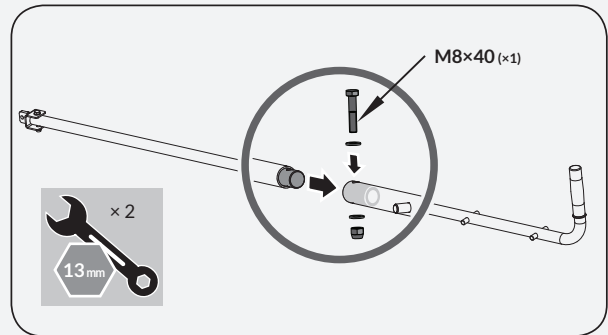

Figure 1c
3. Insert the shorter control lever into the longer lever. Align holes and fasten with M8×40 hex bolt, washers and nut. (See **Figure 1c**)